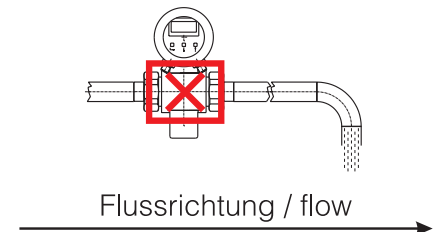

Fig. 5
- not immediately before a free pipe outlet (Fig. 5)